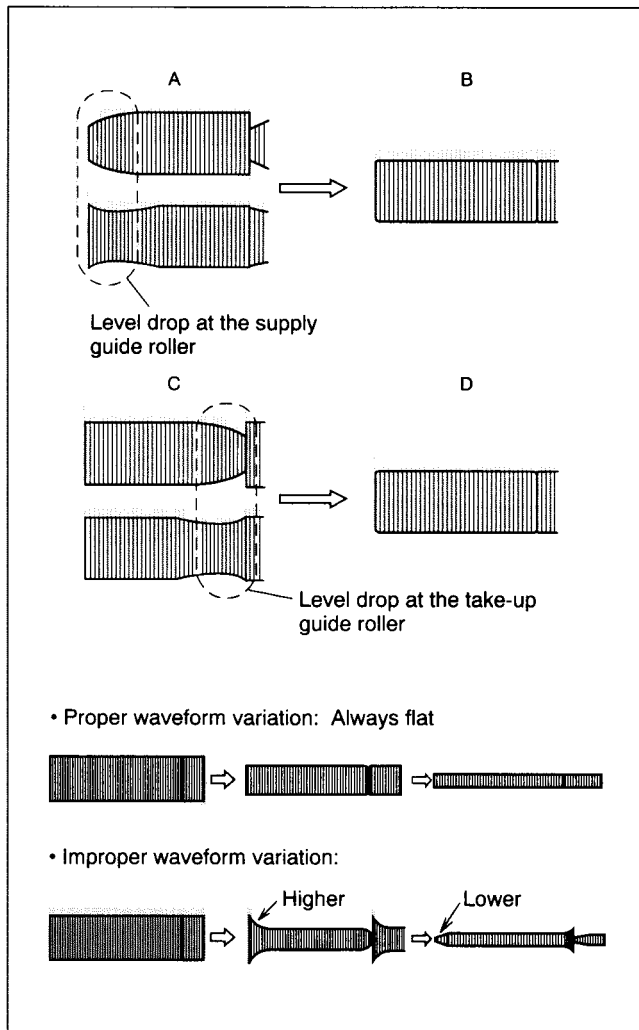

Fig. 2-7-3
- (6) Reduce the FM waveform while pressing the channel buttons (+, -) during playback. If a drop in level is found on the left side as shown in Fig.2-7-3, turn the guide roller of the pole base assembly (supply side) with the roller driver (PTU94002) to make the FM waveform linear. If a drop in level is on the right side, likewise turn the guide roller of the pole base assembly (take-up side) with the roller driver to make it linear. (Fig.2-7-3)
- (7) Then play MHP-L and make sure that the FM waveform varies in parallel and linearly with the tracking operation. When required, perform fine-adjustment of the guide roller of the pole base assembly (supply or take-up side).
- (8) After adjustment, tighten the set screw under the pole base assembly. (Take care not to tighten too much)
- (9) After tightening the set screw, play the alignment tape MHP and MHP-L again to make sure that the FM waveform has correct variation.